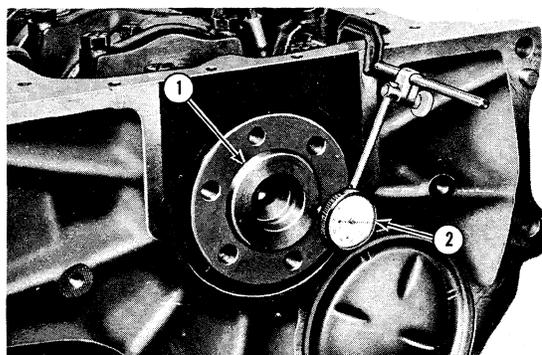

Figure 44
- 8. Check the crankshaft and with a dial indicator so that the contact point rests against the rear flange of the crankshaft, Figure 44. Move the crankshaft rearwards and set the dial indicator to zero. Pry the crankshaft forward and note the reading. If the end play exceeds the limits, Chapter 4, install a new thrust bearing liner. If the end play is less than the specified limit, inspect the thrust bearing surfaces for burns or dirt. If the thrust surfaces are not defective or dirty, re-align the thrust bearings, following the above procedure.